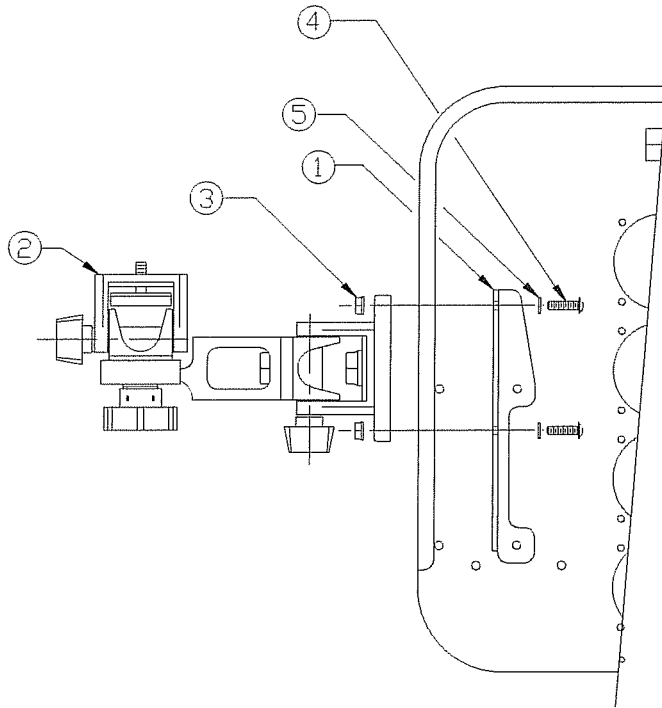
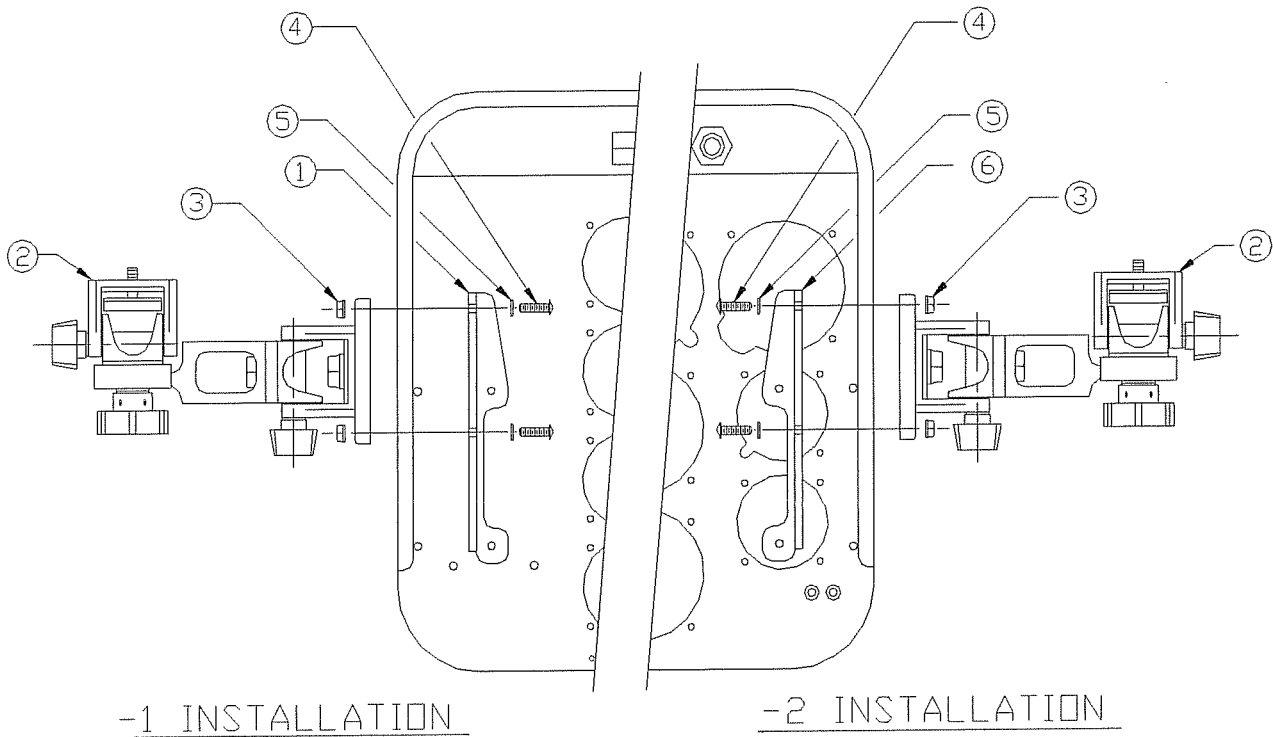

FIGURE 1
FIGURE 2
- 3.2.1 Remove attaching hardware from mount assembly at support points (Ref.: Fig. 1, page 5 and Fig. 2, page 7).
- 3.3.1 Install Monitor Mount Assembly as shown (Ref.: Fig. 1, page 5 and Fig. 2, page 7).